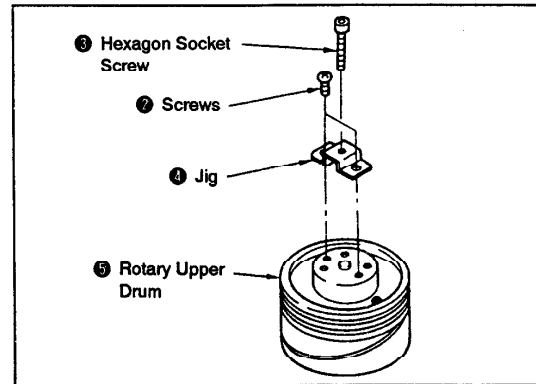

Fig. 3-23.
- 3) Mount the jig ② (Ref. No. J-7) with the two supplied screws ③, then screw the attached hexagon socket screws ⑤ to the jig ②. The rotary upper drum ⑥ will move upward and come off (See Fig. 3-23).